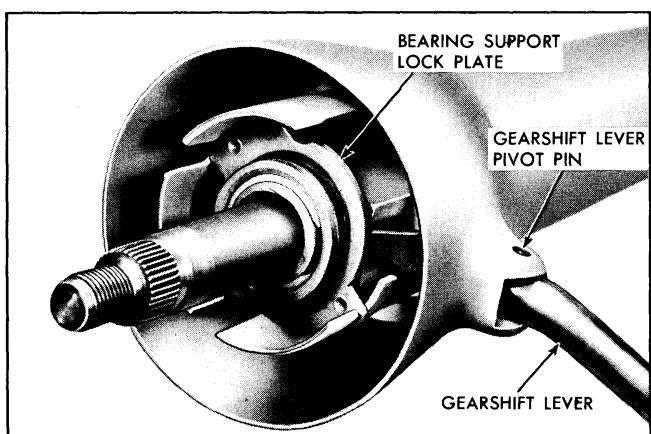

Fig. 9-18 Location of Bearing Support Lock Plate
15. Disengage and remove bearing support lock plate (Fig. 9-18).